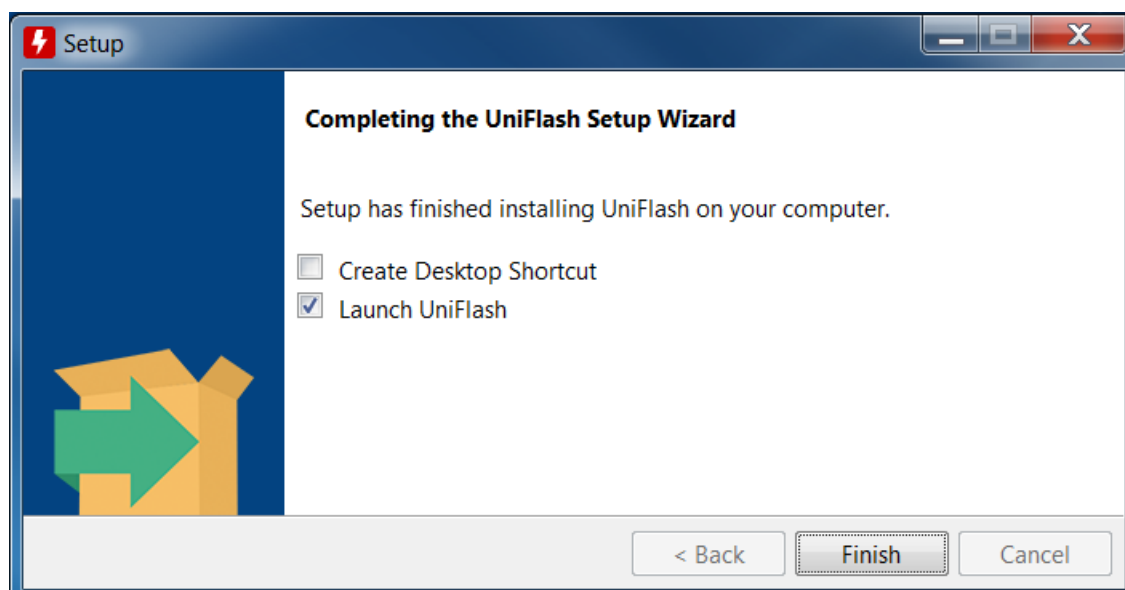

Figure 1-3. Complete Installation
4. Proceed with the installation, and when done click Finish as shown in Figure 1-3.